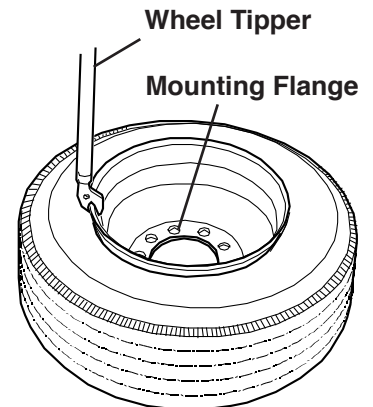

Figure 1
2. With the tire mounting flange against the floor, hook the wheel tipper to the rim of the wheel as shown in Figure 1.